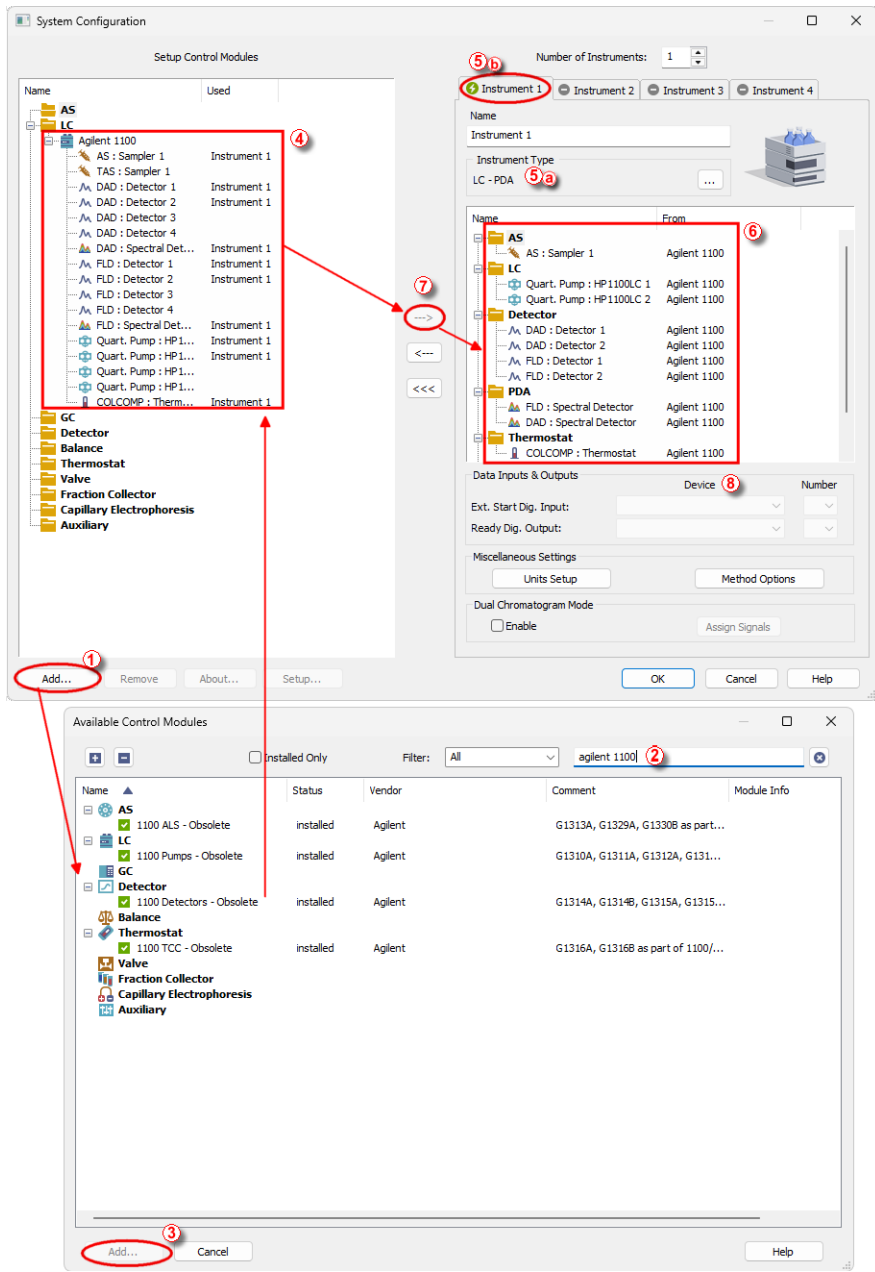

Fig. 10: How to add Agilent 1100
- Press the **Add** button  (see **Fig. 10** on pg. **13.**) to invoke the **Available Control Modules** dialog.